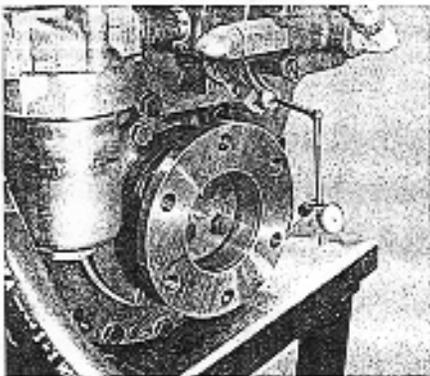

Figure 52. Checking Output Flange Variation at Mounting Face.
B. Mounting face (see fig.52) mount indicator as shown and rotate coupling. Variation must not exceed .003" maximum.